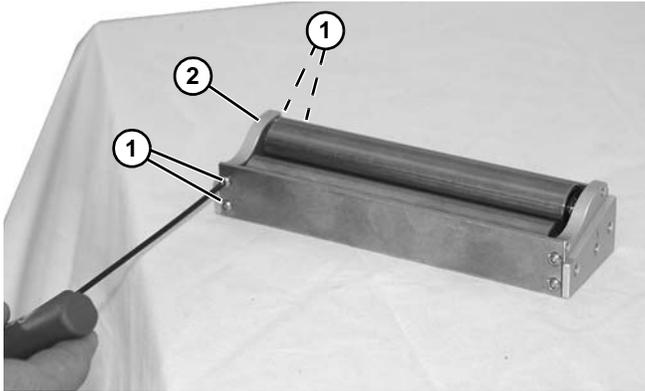

Figure 40
- Remove two screws (Figure 40, item 1) from each side of roller mounting block (Figure 40, item 2).